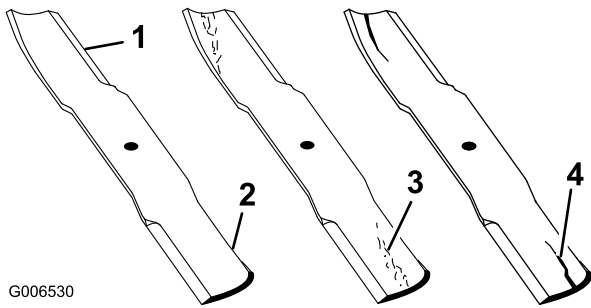

Figure 41
1. Inspect the cutting edges (Figure 41). If the edges are not sharp or have nicks, remove and sharpen the blades; refer to Sharpening the Blades.
2. Inspect the blades, especially the curved area (Figure 41). If you notice any damage, wear, or a slot forming in this area (item 3 in Figure 41), immediately install a new blade.